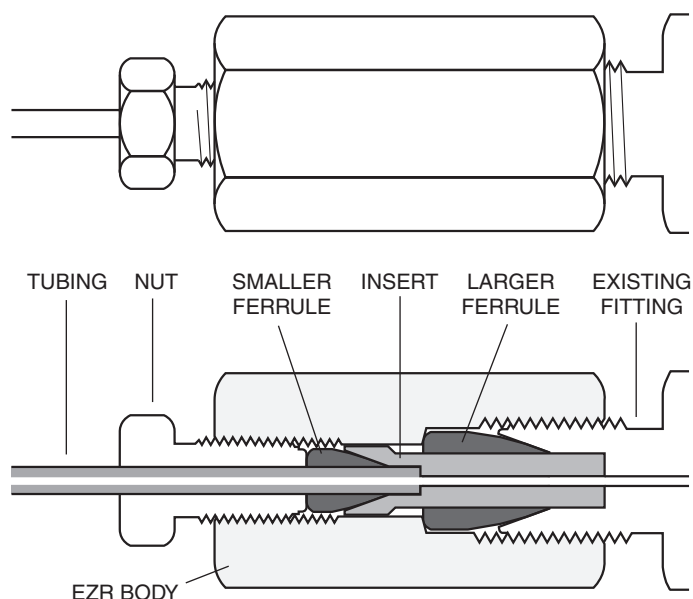

Figure 1: EZR cutaway view
2. Remove the zero volume nut and the smaller ferrule from the EZR body. (**Figure 1**)
3. Slide the nut and ferrule onto the tubing, oriented as in **Figure 1**. Do not screw the nut into the EZR body yet.